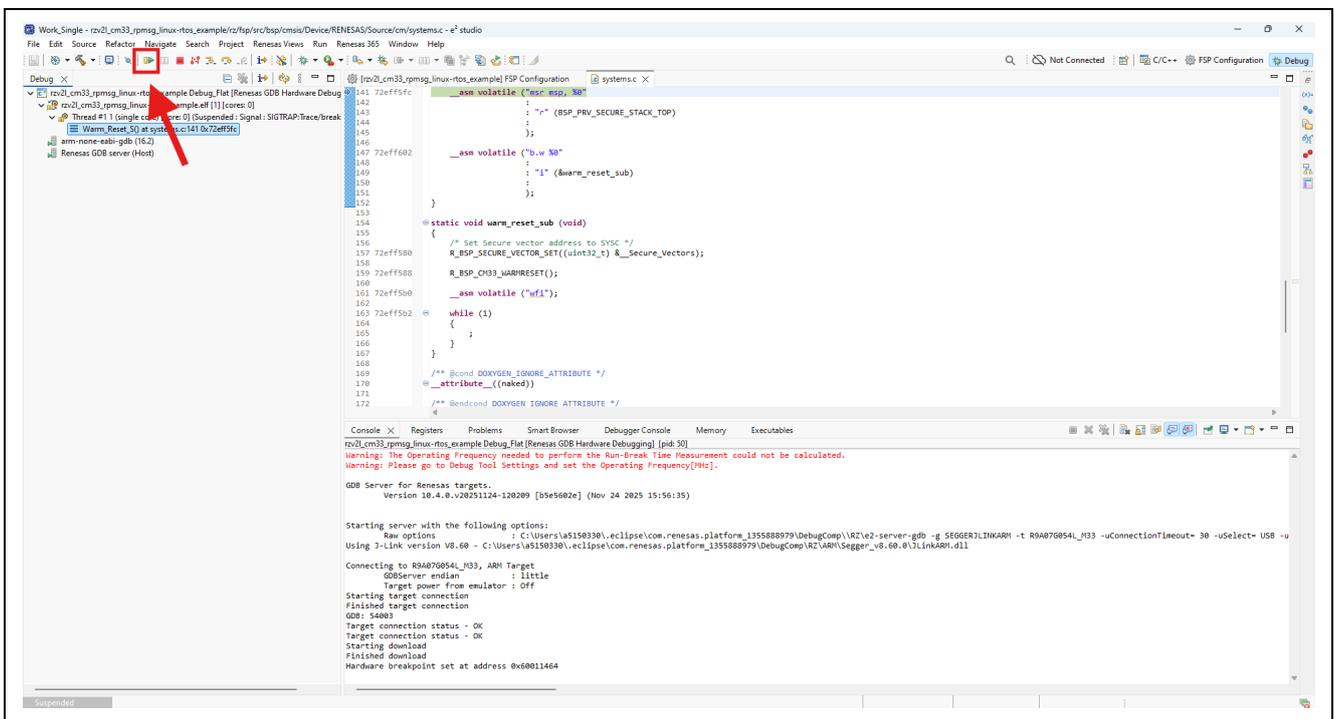

Figure 4-8. How to start to debug sample project (1)
3. When Debug Perspective is opened, Program Counter (PC) should be located at the top of Warm_Reset_S function. Then, you need to press the button indicated by a red arrow in Figure 4-8.